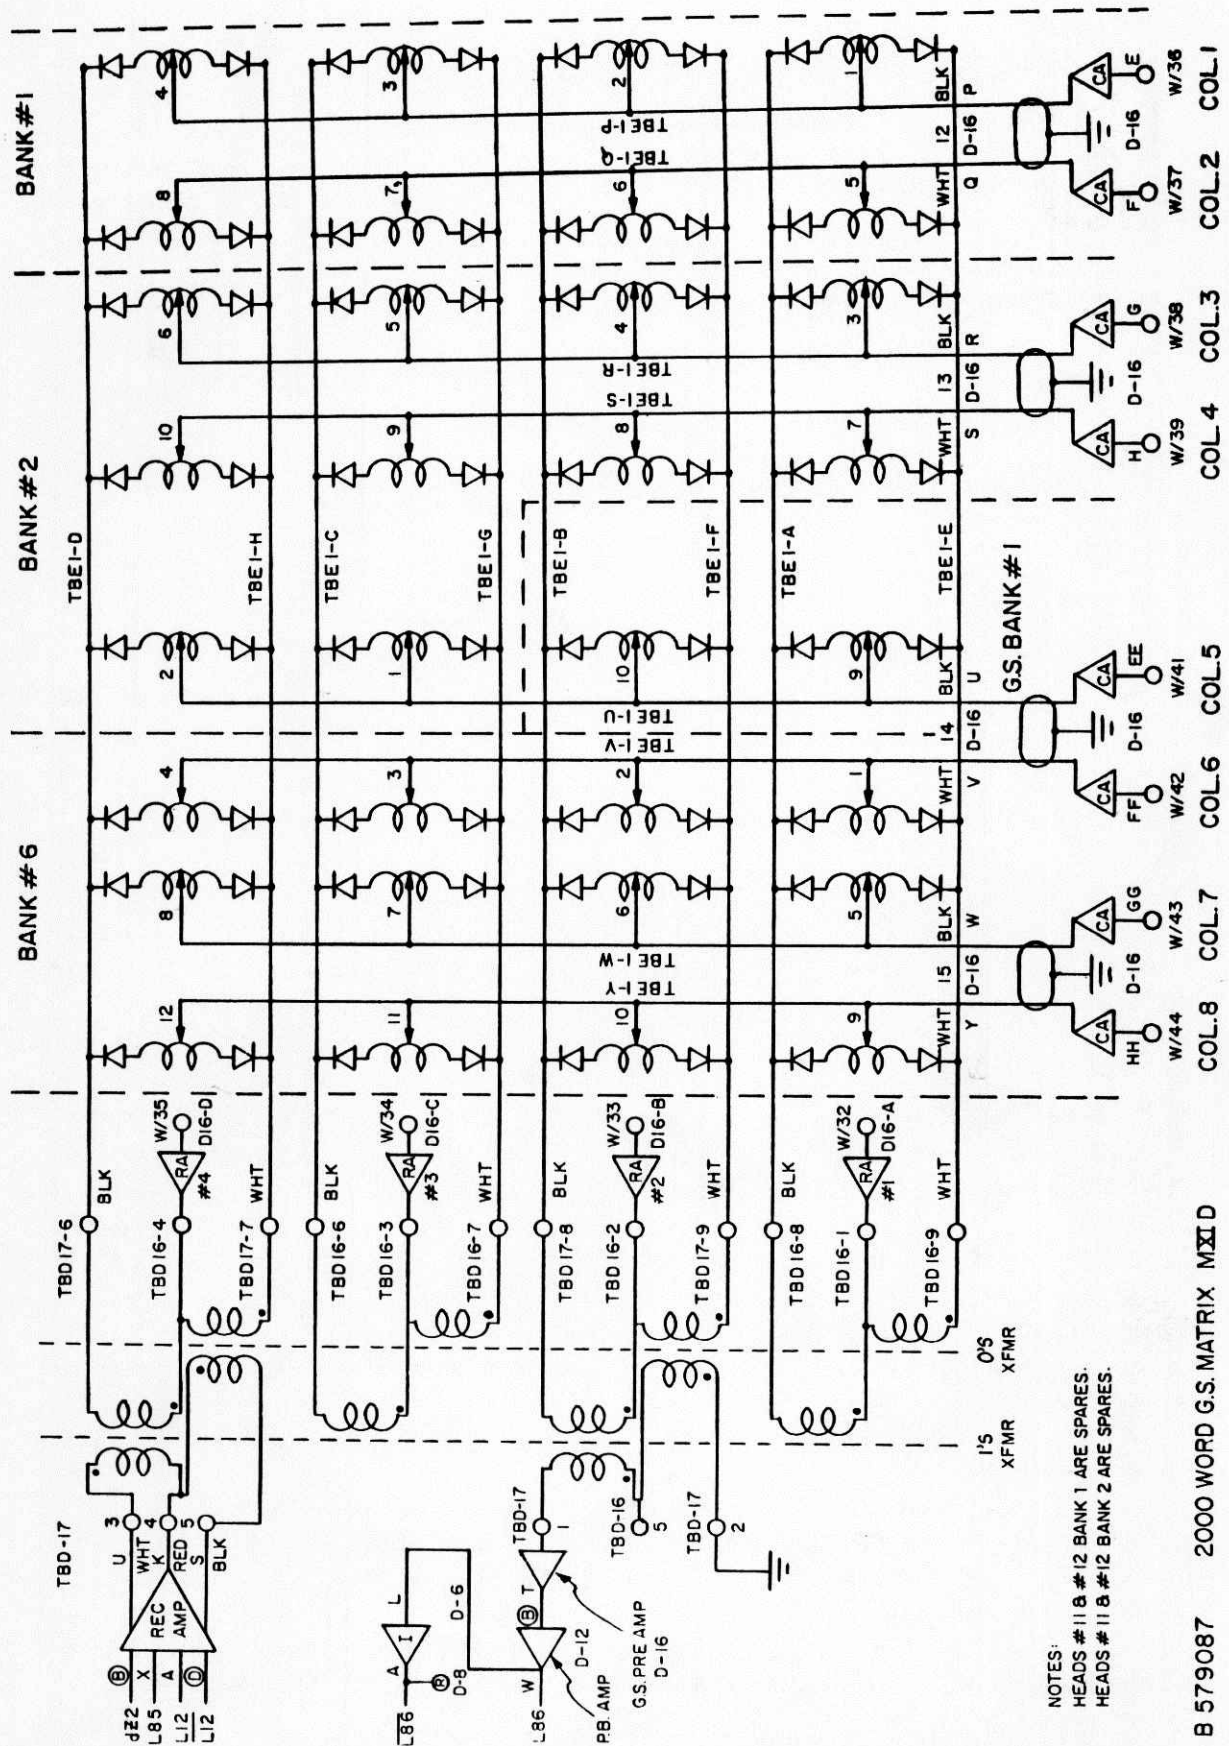

Fig. 446
Fig. 446 shows the selection matrix including the transistorized switches called row amplifiers (RA) and column amplifiers (CA) (these circuits are described in detail later), and the record and playback amplifiers which are shown for reference only as they are not part of the matrix. The 1's transformer and 0's transformer are packaged into the unitary-appearing selection transformer mounted on TBD 16-17. As will appear separate magnetic structures for 1's and 0's are essential to recording. They are connected in aiding polarity for playback.